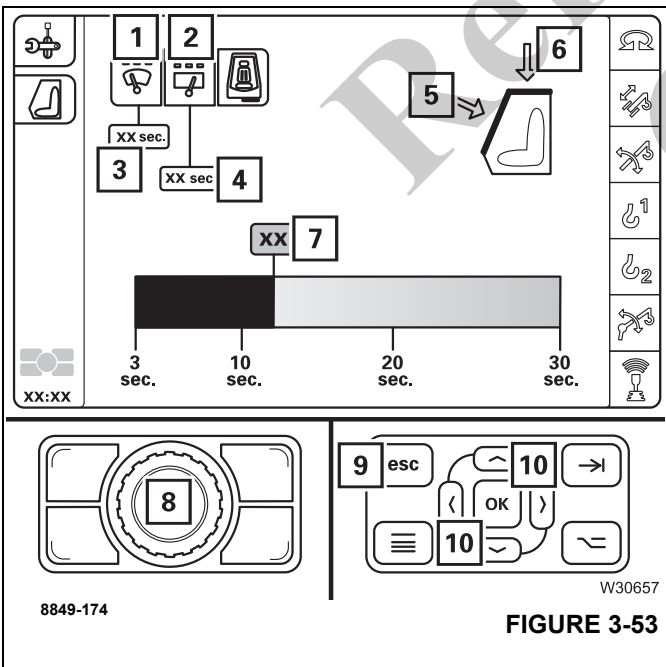

FIGURE 3-53
- The displays (1), (Figure 3-53) and (2) show the current values.
- Select and confirm the symbol (7), (Figure 3-53). Symbol is orange – input on.
To cancel the input – press button (9), (Figure 3-53) once.
- Change the value using buttons (8), (Figure 3-53) or (10), (Figure 3-53).